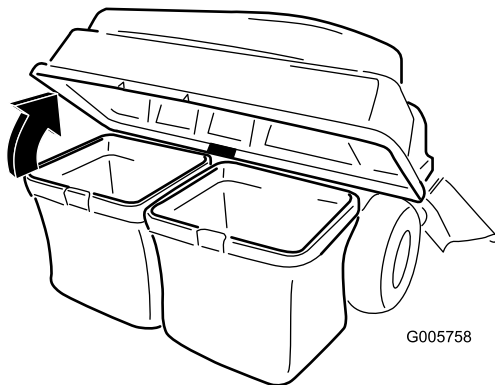

Figure 30
3. Open (raise) the bagger top (Figure 30).